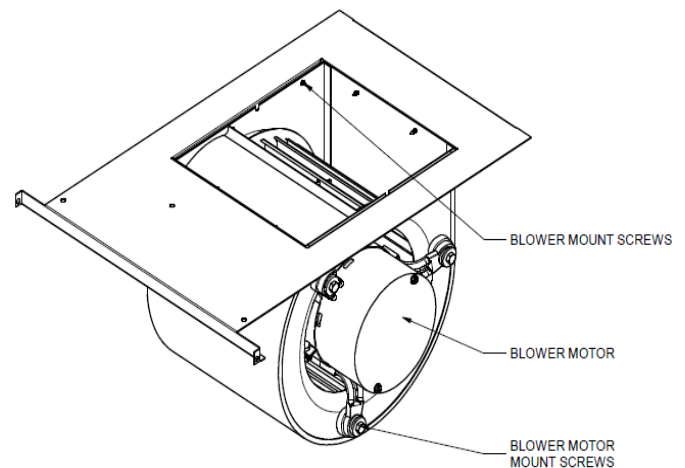

Figure 6: Blower Assembly and Mounting Screw Location
5. Remove the two screws on the left and right side and the center screw on the bracket in front of the blower mounting plate and slide the blower out. Refer to Figure 6.